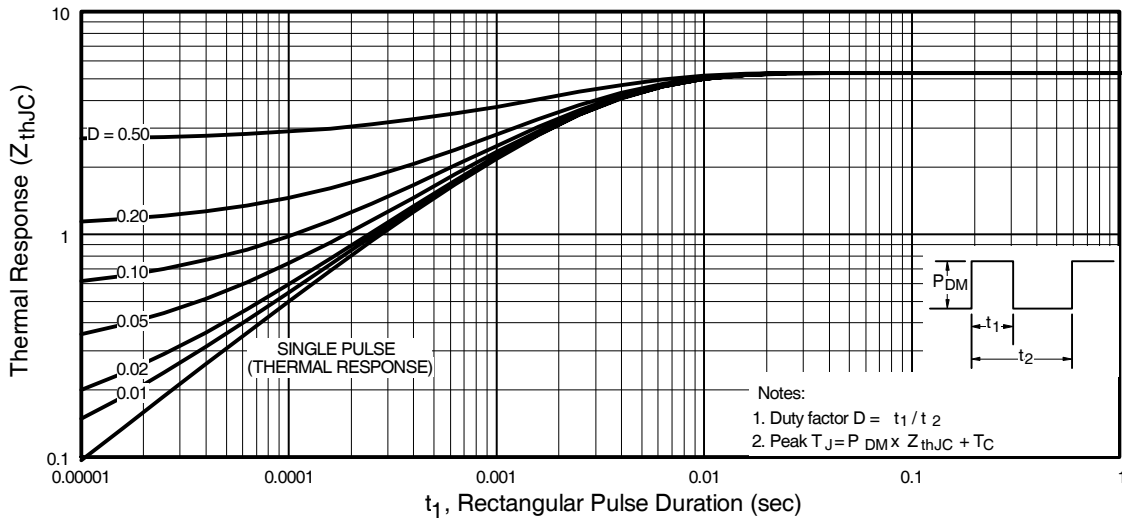

Fig 11. Maximum Effective Transient Thermal Impedance, Junction-to-Case
- ① Repetitive rating; pulse width limited by max. junction temperature. (See fig. 11)
- ② Starting $T_J = 25^\circ\text{C}$, $L = 1.96mH$